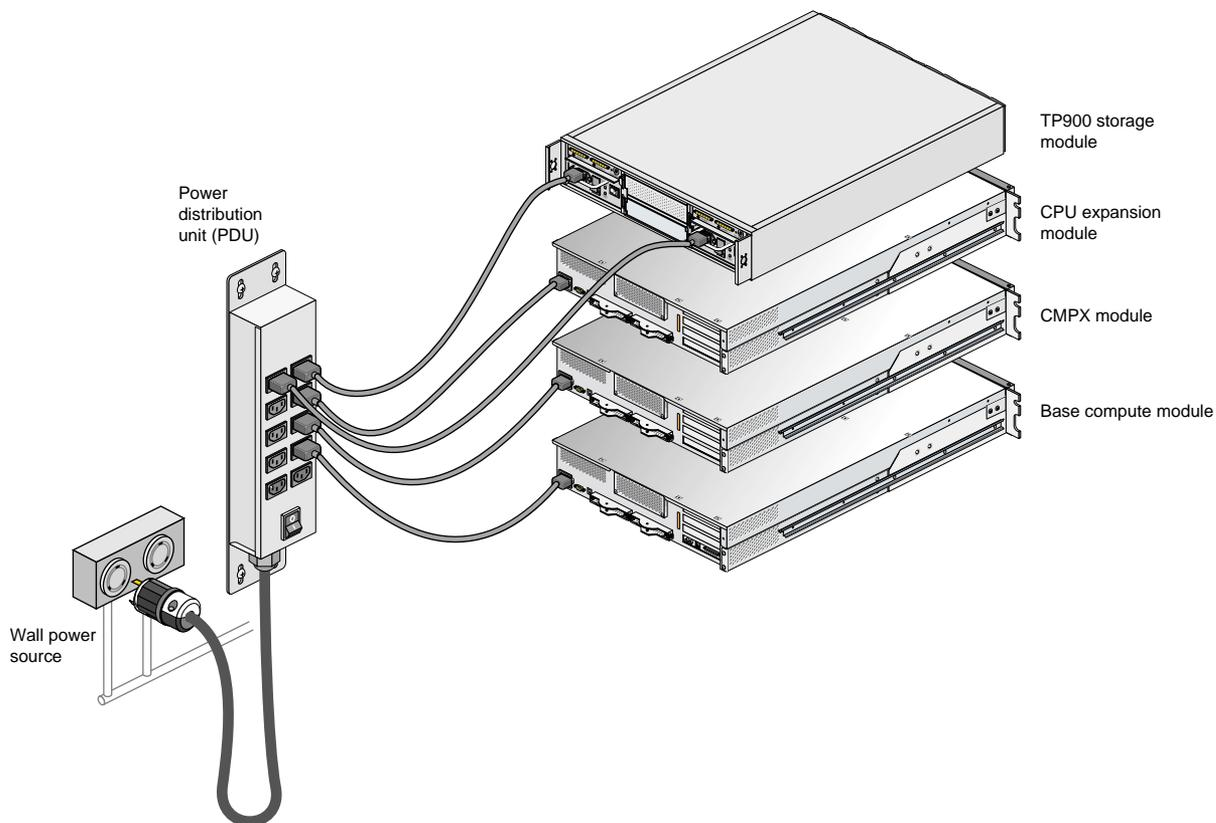

Figure 2-22 Power Connection Example for Altix 350 System
- **One or two power distribution units (PDUs)** (see Figure 2-22). The second PDU is added to the system when more than 10 AC power receptacles are needed within the rack.
Figure 2-22 shows the power connections for a sample Altix 350 system.